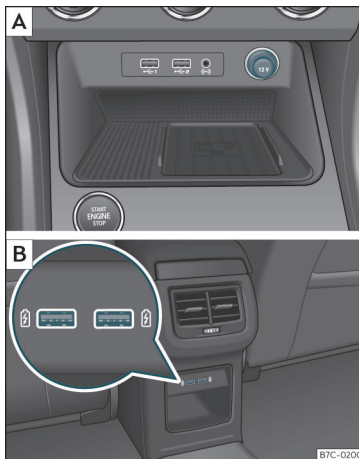

Fig. 133 **A** Centre console: front 12 volt power socket. **B** Rear of the centre console: USB sockets.
- Remove the cap located on the centre console of the socket >>> **Fig. 133. A**.
These USB ports are located at the rear of the console, between the front seats »» **Fig. 133** . These connectors can work at a maximum power of up to 10.5 W per port.